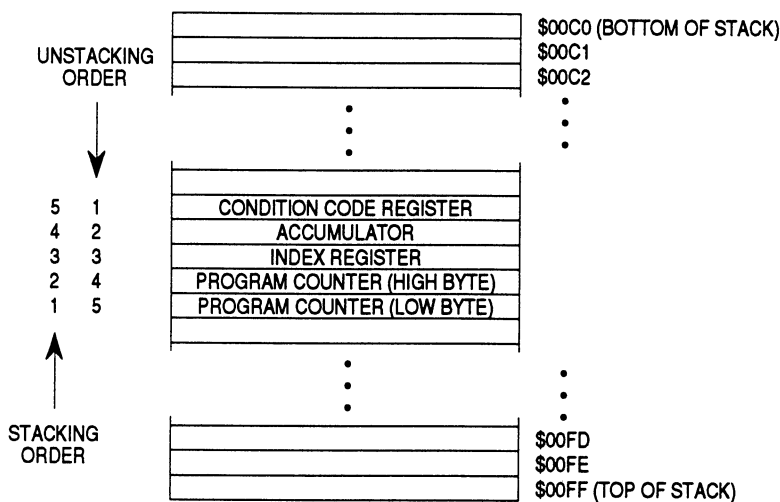

Figure 4-2. Interrupt Stacking Order
- Stores the CPU registers on the stack in the order shown in Figure 4-2
The return from interrupt (RTI) instruction causes the CPU to recover the CPU registers from the stack as shown in Figure 4-2.